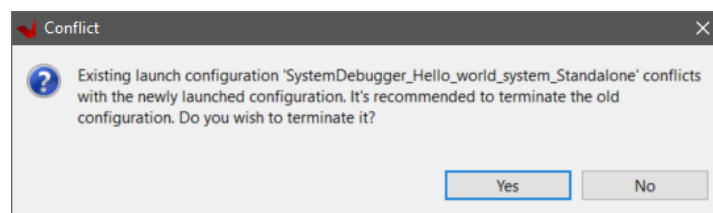

Figure 34
17. If the **Hello_world** application is still running in the ZYNQ7 Processing System, a **Conflict** window appears, asking if we wish to terminate the previous launched configuration (Figure 34)